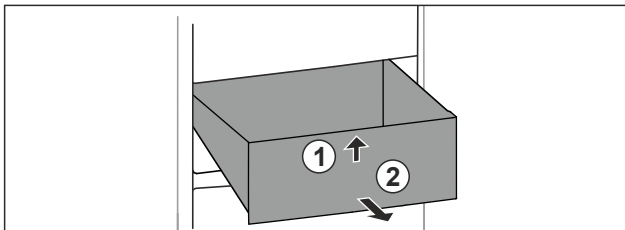

Fig. 67
- Lift up drawer at the front. *Fig. 67 (1)*.
- Remove drawer to the front. *Fig. 67 (2)*.